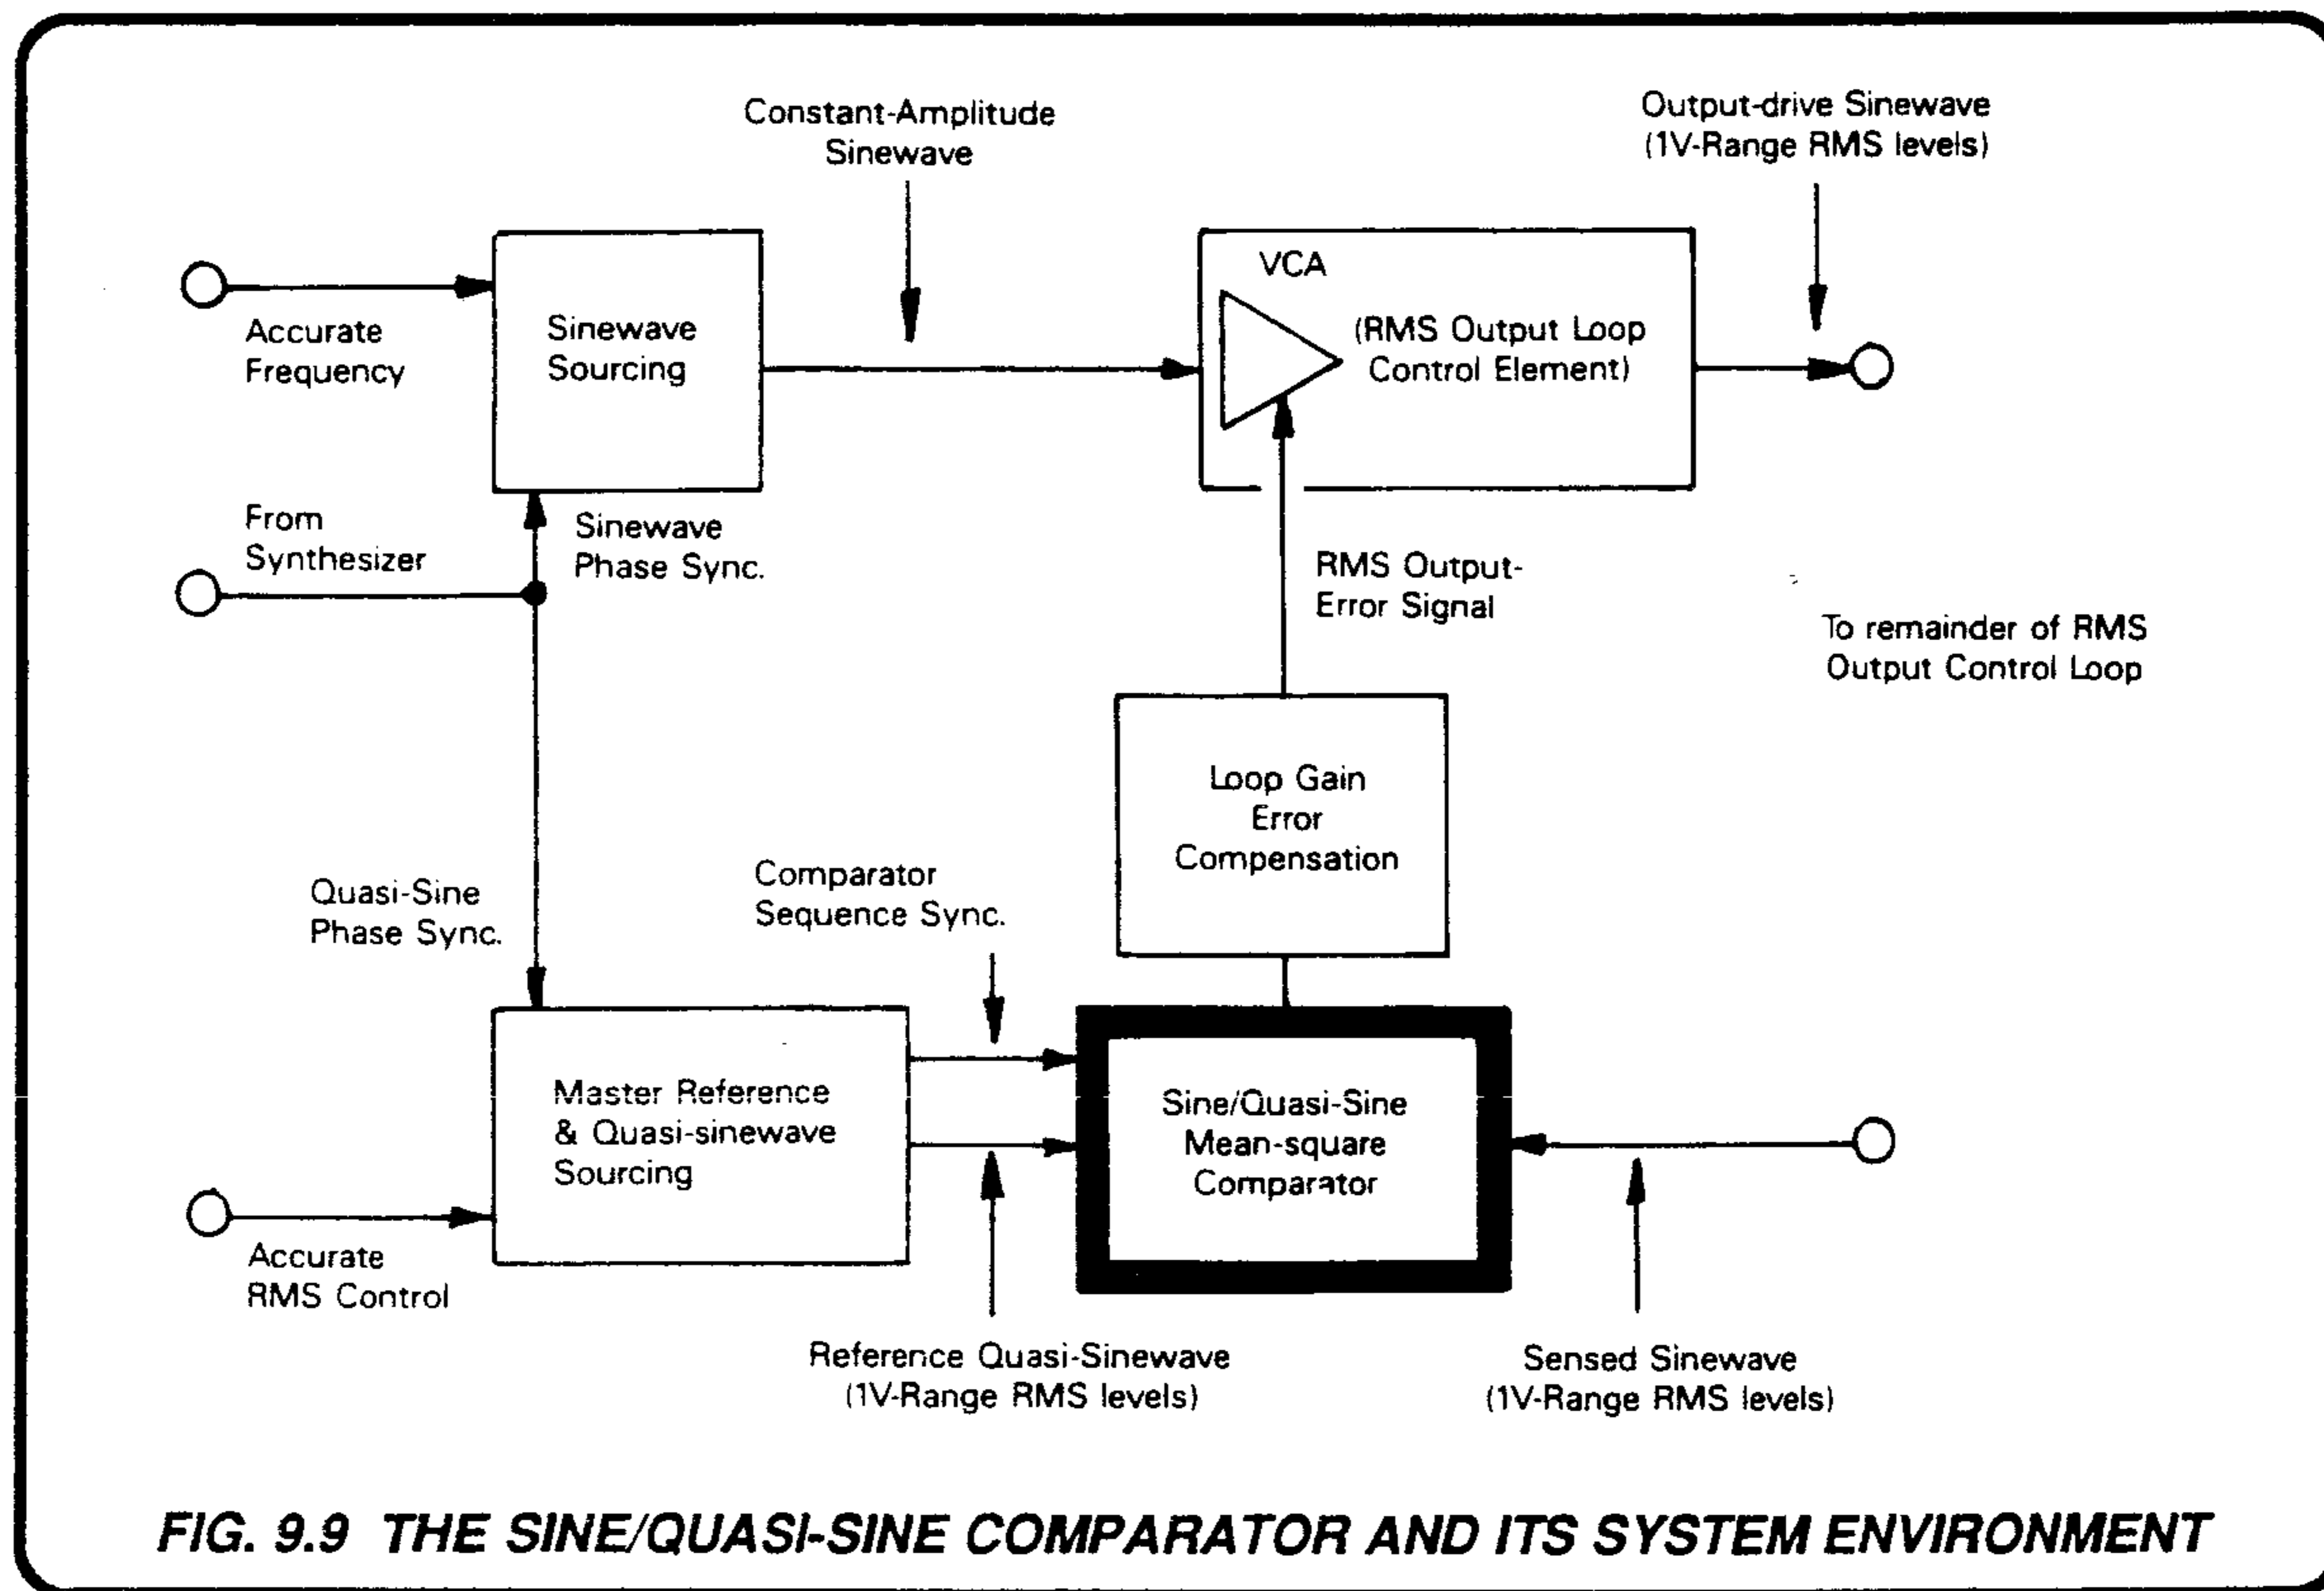

FIG. 9.9 THE SINE/QUASI-SINE COMPARATOR AND ITS SYSTEM ENVIRONMENT
9.9.1 PURPOSE AND ENVIRONMENT (Fig. 9.9)